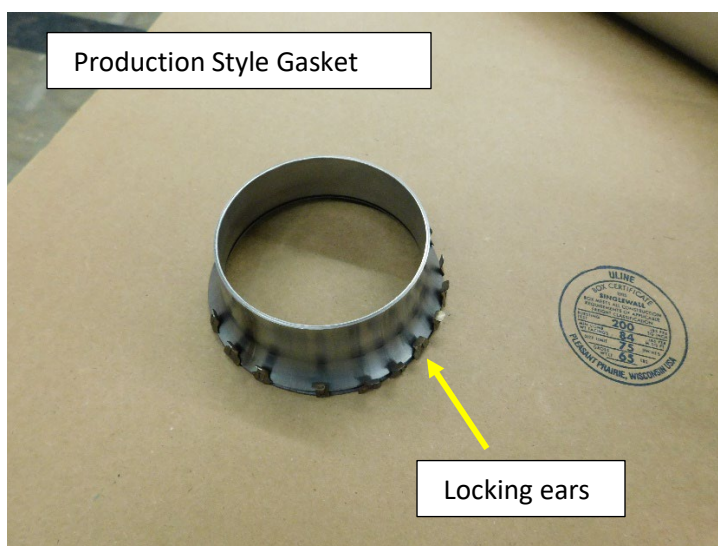

Figure.4
1. Install the OEM Down pipe gaskets on to the Flowmaster down pipe flanges as seen in **Fig. 4**.
Note: It may be necessary to carefully bend the small ears back just enough to get them over the lip of the flange. Bend the ears back on to the flange to lock it on. **Fig.4**